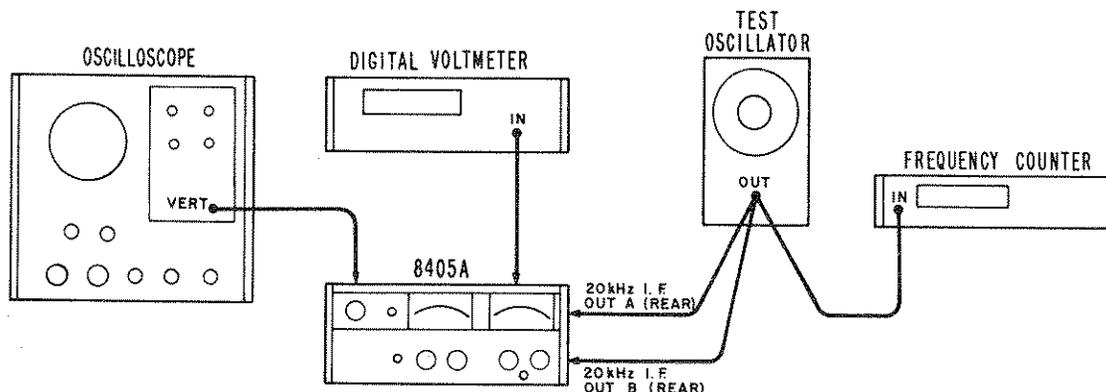

Figure 2C. Setup for Phase Meter Adjustments
- a. Connect test equipment as shown in Figure 2C.